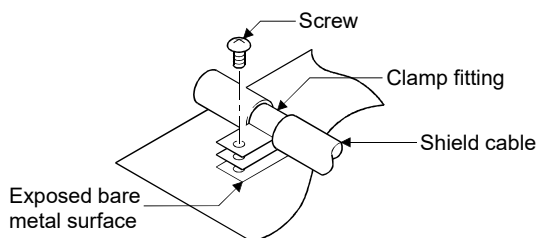

Figure 14.2 Shield grounding (Correct example)
2) Ground the exposed shield section to spacious area on the control panel. A clamp can be used as shown in Figure 14.2.